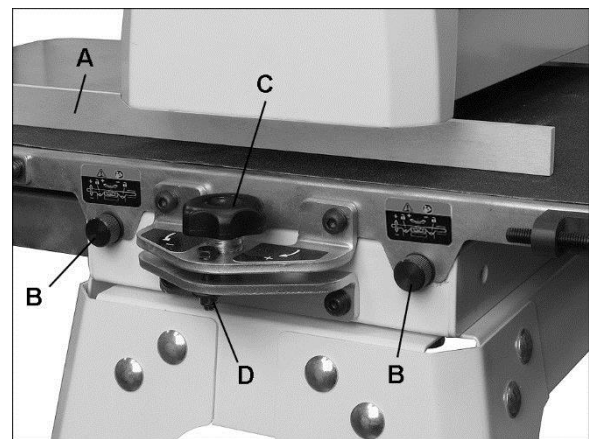

Figure 8-3: drum alignment
- Insert gauge between drum and conveyor table at outboard side of drum (A, Figure 8-3).
- Loosen both table locking screws (B, Figure 8-3)
3. If a ridge is visible where the drum overlaps, lower table at outboard end slightly by turning knob (C, Figure 8-3).
Note: When sanding narrow stock (less than 406mm), return conveyor table to parallel position. Turn knob opposite direction until lock nut (D, Figure 8-3) is contacted. The lock nut provides a positive stop for table parallelism.